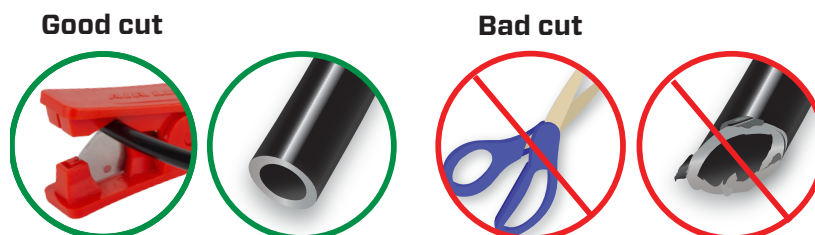

fig. 23
1. Cut the air line in half. Make clean, square cuts with a hose cutter (Fig. 23). Do not use scissors or wire cutters.